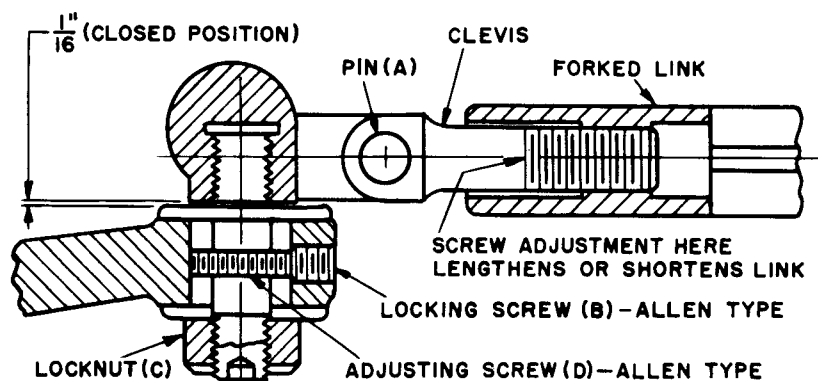

Fig. 8. Section of blade operating crank and connecting link screw adjustment
- d. Switch blade should be vertical in its open position with its operating crank turned 180 degrees from the jaw. The crank radius is set at the factory and normally should not require field adjustment. However, if the blade travels more than or less than 90 degrees, adjustment to correct this can be made at the operating crank swivel as shown in Fig. 8 below and following directions.
DIRECTIONS FOR CHANGING RADIUS (FIG. 8)